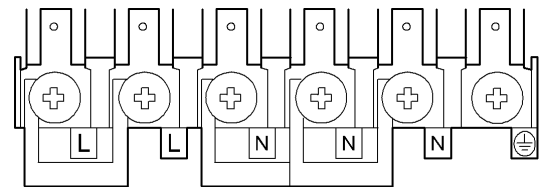

Fig.2.
- Make connection as shown in Fig 2 by proceeding as follows:-
- Clamp bare wires into the relevant terminal (Fig. 2.) and check they are held by tugging each one in turn.
AS SHOWN IN FIG.2.**